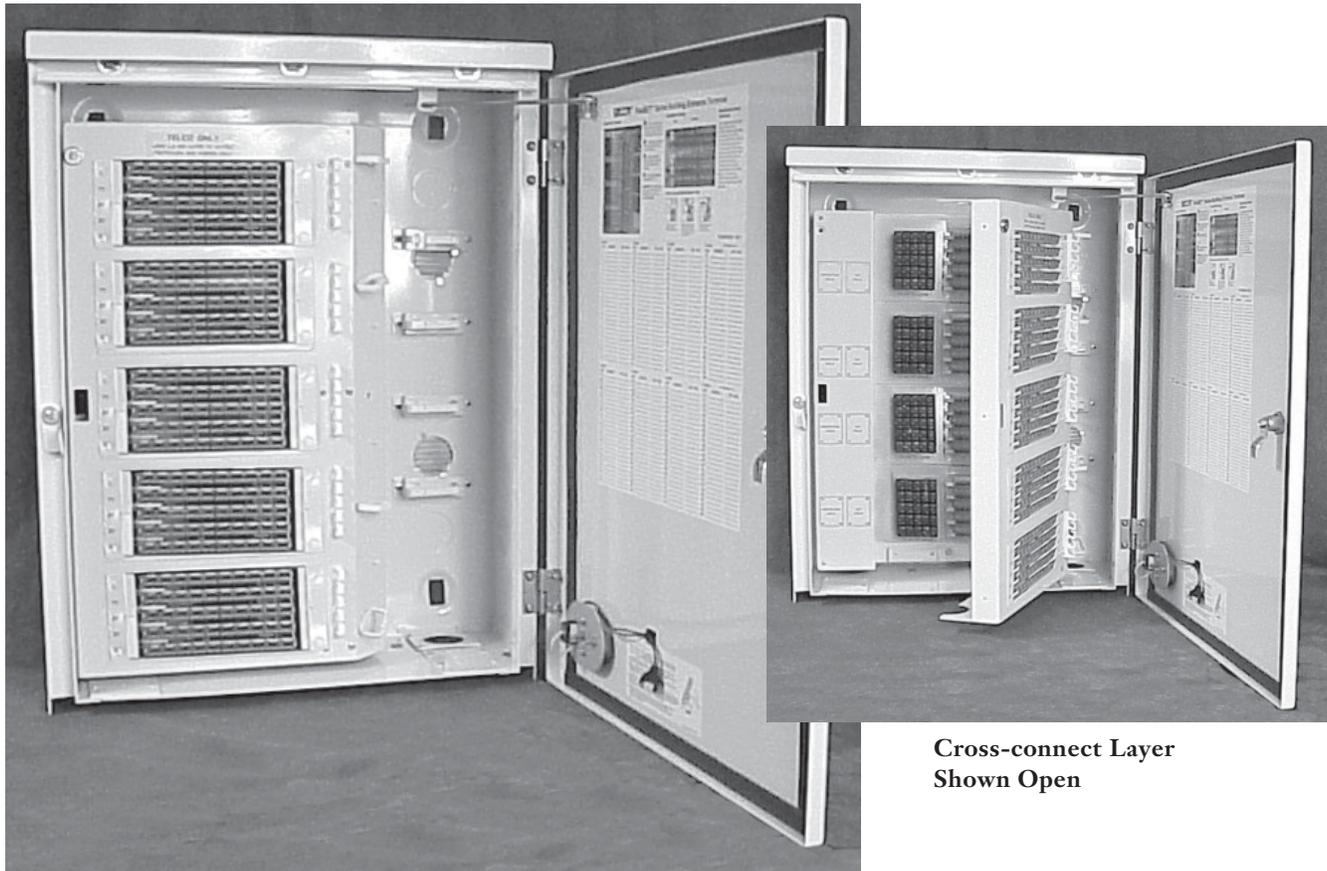

Figure 1
**2.2** An optional layer (Cross-connect Layer as seen in Figure 1) is available when cross-connect or multiplexing capabilities are required. The Cross-connect Layer can be equipped with various input/output options. For cross-connect purposes, modular 50-pair double-sided IDC connector modules can be added up to a maximum of four